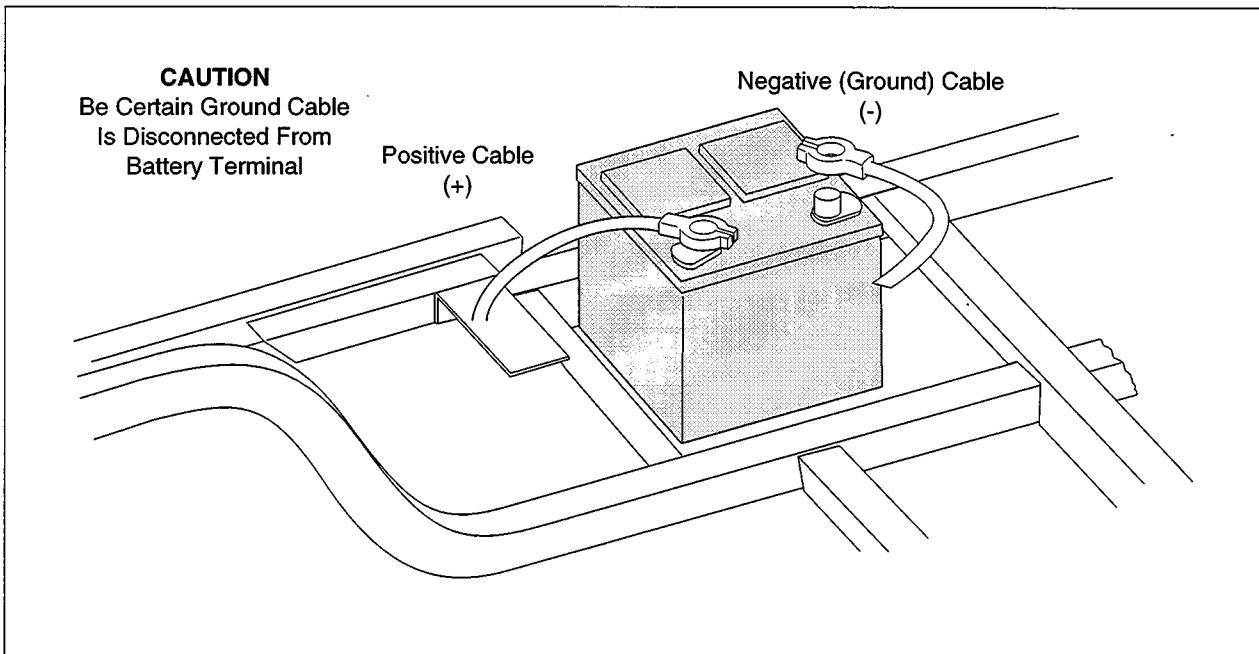

Fig. 1 Negative (Ground) Cable Connection
3. Using an insulated wrench, disconnect the battery ground cable and cover negative battery terminal (-) with a shop rag. (See Fig. 1)
1. Place the electric actuator, item 1 into the cylinder mount oriented as shown, and insert clevis pin (Item 13) through the cylinder mount and electric actuator. Secure with spring pin (Item 16).
3. Using an insulated wrench, reconnect battery ground cable. (See Fig. 1)